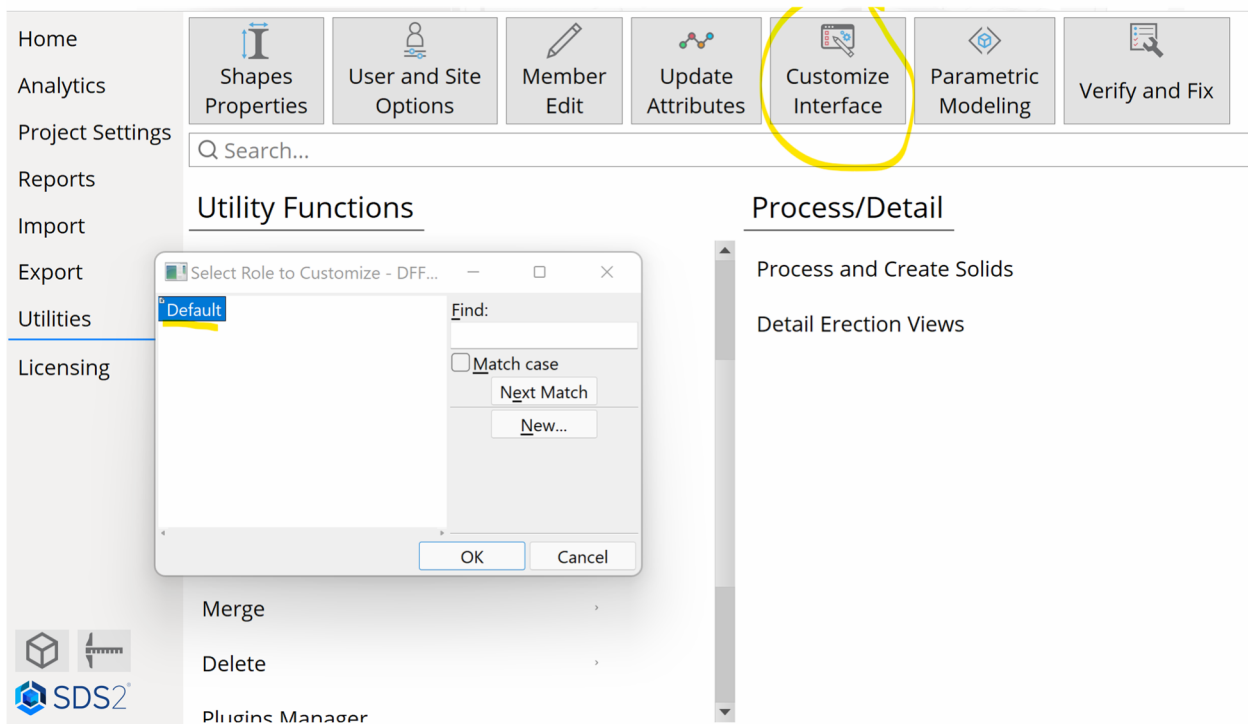

Figure 3-4. Customize Interface
- 5) Back on the *Home* screen, select **Utilities – Customize Interface** (Figure 3-4).